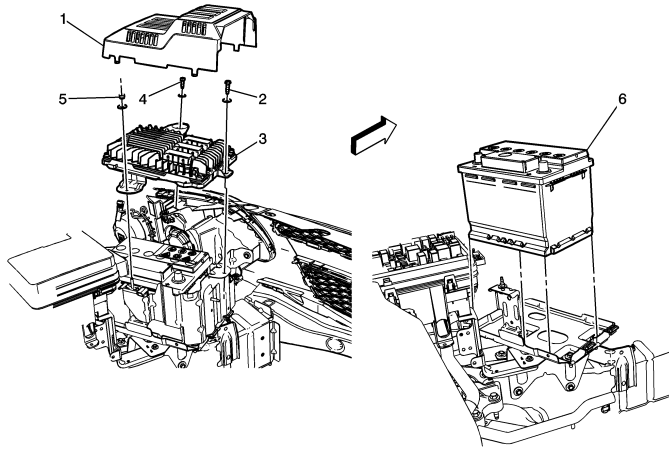

Fig. 2 Battery removal
6. Remove battery cover (1), **Fig. 2**.
7. Remove Engine Control Module (ECM) bracket bolts (2), **Fig. 2**.
8. Remove battery hold down retainer bracket bolt (4) and nut (5), **Fig. 2**.
9. Remove ECM bracket/battery hold down retainer with ECM (3) and position aside, **Fig. 2**.
13. Remove battery (6) from battery tray, **Fig. 2**.
4. Install ECM bracket/battery hold down retainer with ECM (3), **Fig. 2**. **Torque** battery hold down retainer bracket bolt (4) and nut (5) to 80 inch lbs.
5. Install ECM bracket bolts (2), **Fig. 2**. **Torque** bolts to 80 inch lbs.
6. Install battery cover (1), **Fig. 2**.